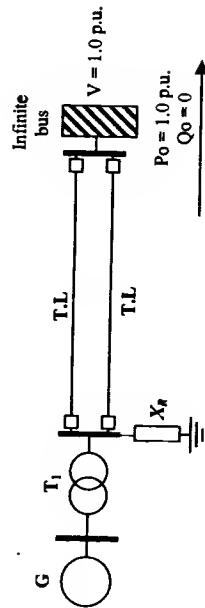

Fig. 6
6. Consider the system shown in Figure 6. Find the synchronizing power and the natural frequency of free oscillations.
- Fig. 6 shows the Bode diagram of $G(s)H(s)$ of a negative feedback control system. Determine the maximum overshoot for a unit-step response.